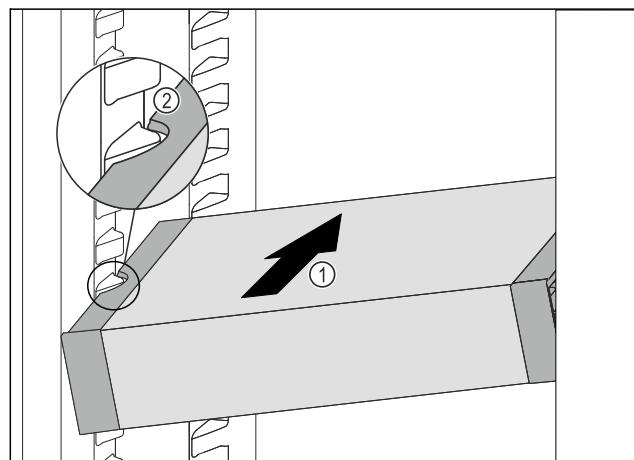

Fig. 112
- Insert the VarioSafe into the fridge section at an angle Fig. 112 (1) until the recesses in the side Fig. 112 (2) of the VarioSafe are at the level of the support rib in the fridge section.